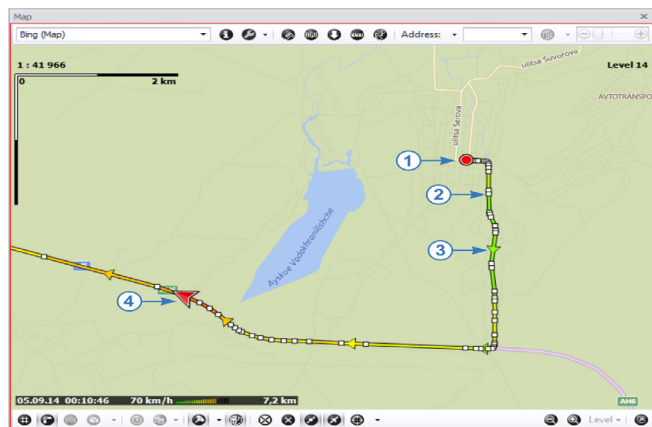
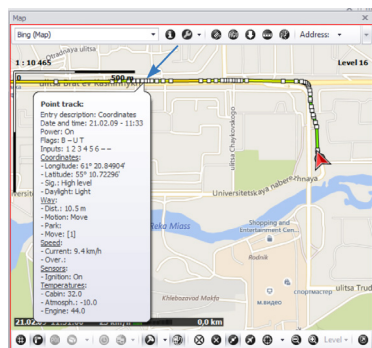

Fig. 72. Track elements.
Fig. 73. Track point.
- The track starting point is highlighted with a special icon on the track (**Fig. 72, item 1**).
- If required, the points corresponding to coordinate entries of the on-board controller can be shown on the track (**Fig. 72, item 2**).
To show track points, click the “Show track points” button which is located on the bottom toolbar of Map Viewer (**Fig. 72, item 5**). Left click on a track point displays a pop-up window with information about the selected point (**Fig. 73**).
- The vehicle movement direction is shown by the arrows on the track (**Fig. 72, item 3**). The arrows may be hidden if required. To show or hide direction, click the “Show track direction” button which is located on the bottom toolbar of Map Viewer (**Fig. 72, item 5**).
- The vehicle position at the selected time, including the current vehicle position is displayed using Vehicle Cursor (**Fig. 72, item 4**). Vehicle cursor is described in more detail in the following paragraphs.
- The vehicle track may be hidden. To hide it, click the “Hide track” button on the bottom toolbar of Map Viewer (**Fig. 72, item 5**). If the track is hidden, then upon the data selection the latest known location of the vehicle over the selected time span is displayed.